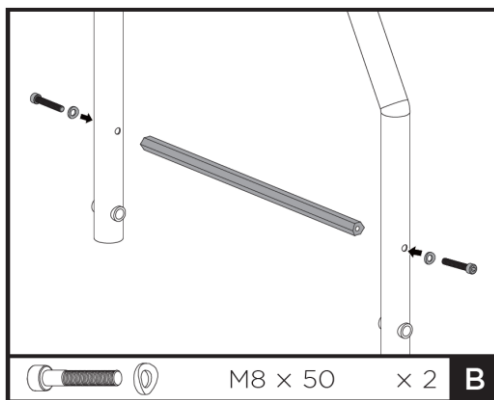

Fig. 4b
3. For rear support legs, align the holes on the rear support legs with those on the connecting tubes (j) and the connecting shaft (i). Use bolts M8x50 (B) and washers to secure the connection. See Fig. 4b.